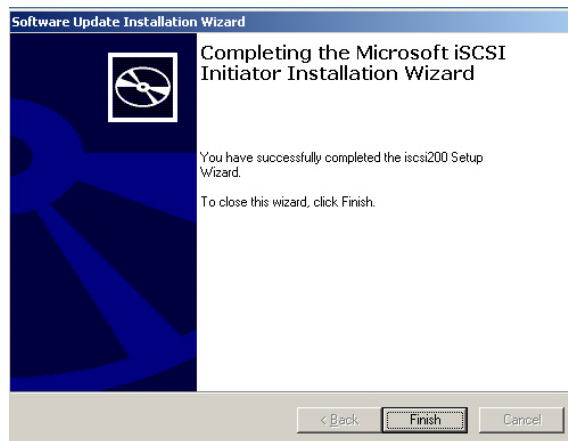

Figure A.4 Software Update Installation Wizard Dialog Box
5. The installation is completed. To exit, click **Finish** (see Figure A.4).